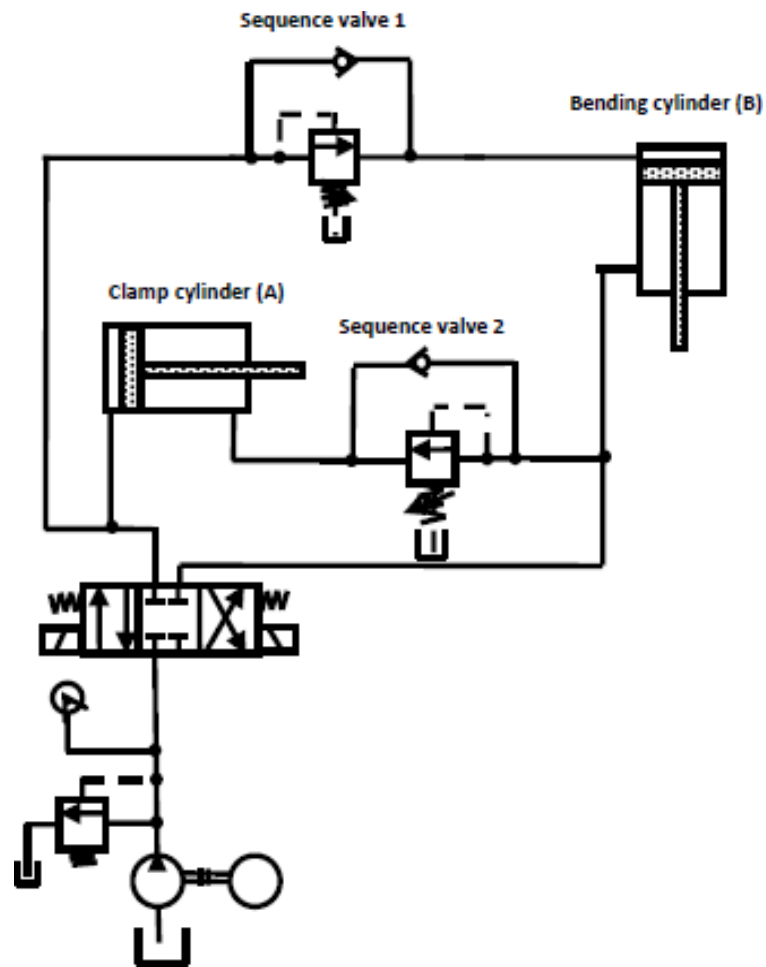

Figure 1.7 Sequencing circuit.
Hydraulic cylinders can be operated sequentially using a sequence valve. Figure 1.7 shows that two sequence valves are used to sequence the operation of two double-acting cylinders. When the DCV is actuated to its right-envelope mode, the bending cylinder (B) retracts fully and then the clamp cylinder (A) retracts.